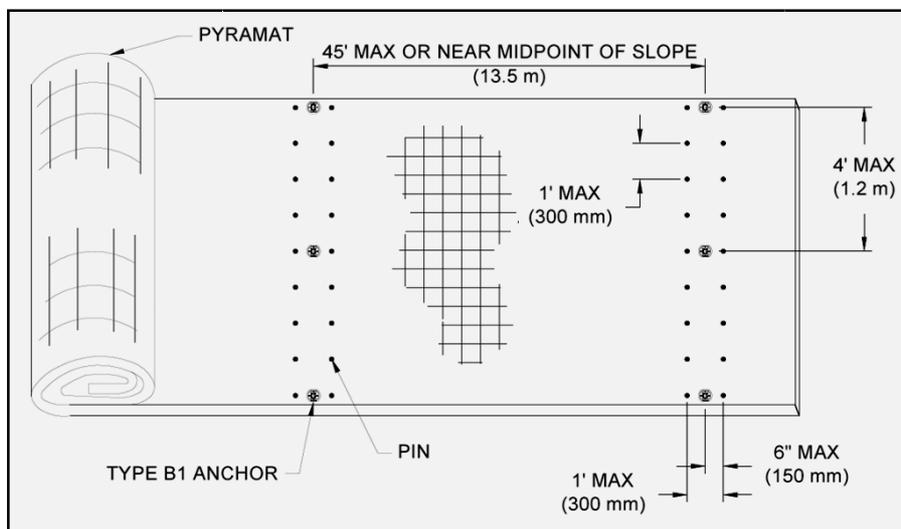

Figure 23: Simulated Check Slot
- c. For channel lengths greater than 45 ft (13.7 m), install simulated check slots. This method includes placing two rows of pins 12 in (300 mm) apart on 12 in (300 mm) centers and one row of PDEAs between the rows of pins on 4 ft (1.2 m) centers at 45 ft (13.7 m) maximum intervals or across the midpoint of the channel for channel lengths less than 60 ft (18.2 m) (Figure 23).